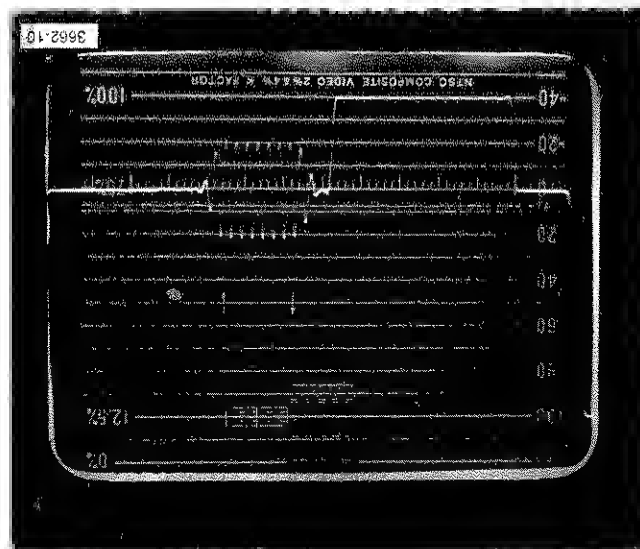

Fig. 2-8. Display of a 10-step modulated staircase signal with the RESPONSE switch set to FLAT and the SWEEP switch set to 1 μ s/DIV.
16. Set the VARIABLE (VOLTS FULL SCALE) control to CAL, the RESPONSE switch to FLAT, and the SWEEP switch to 1 μ s/DIV. A magnified display of the horizontal blanking interval should be obtained. Set the POSITION controls as necessary for best viewing. A typical display is shown in Fig. 2-8.